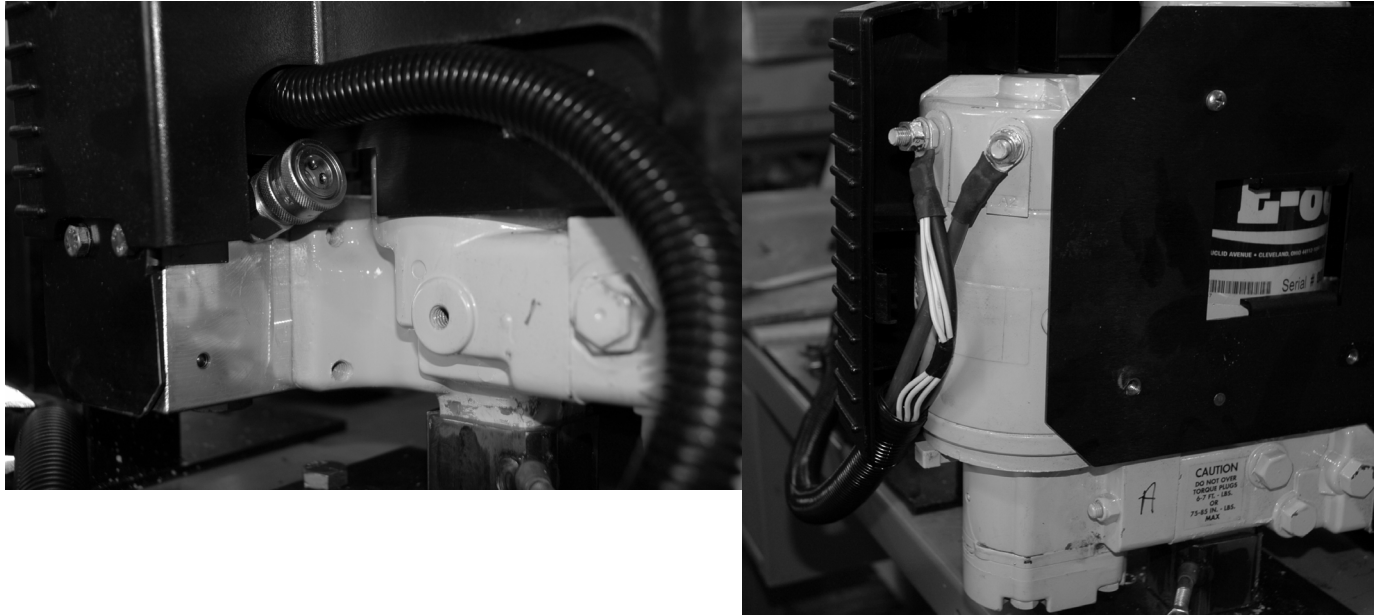

FIGURE 10
- Attach E-68 Serial Number Decal to the front cover mounting bracket on front of the unit and record new E-68 serial number and old E-88 Serial number. Route the harness as shown below in order to re-attach the cover (figure 10).